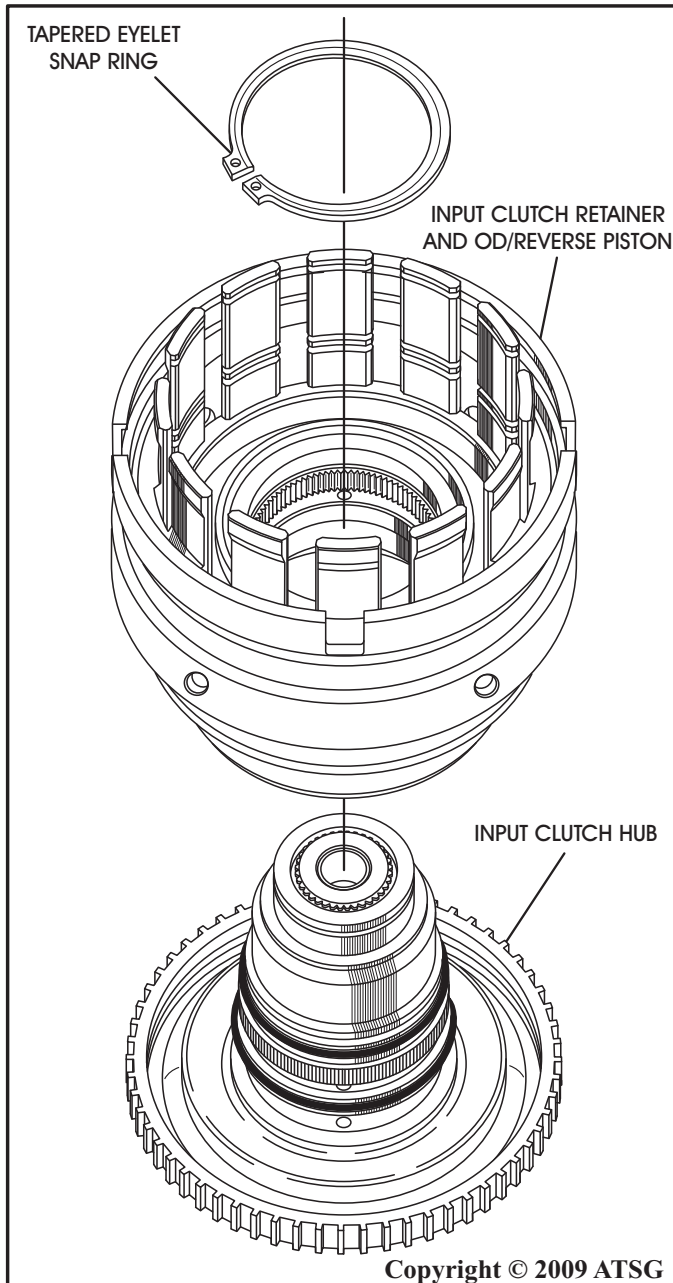

Figure 76
15. Install input clutch retainer and OD/Reverse piston assembly onto the input clutch hub, as shown in Figure 76.
16. Install the input clutch retainer tapered snap ring, with the tapered side facing up, into the groove in the input clutch hub as shown in Figure 76.